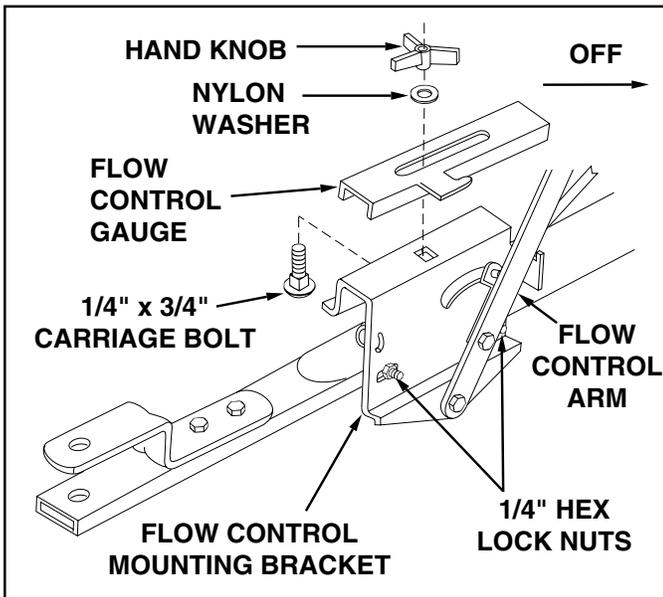

FIGURE 14
22. Assemble the flow control gauge onto the flow control mounting bracket using a 1/4" x 3/4" carriage bolt, a nylon washer and the plastic hand knob. See figure 14.